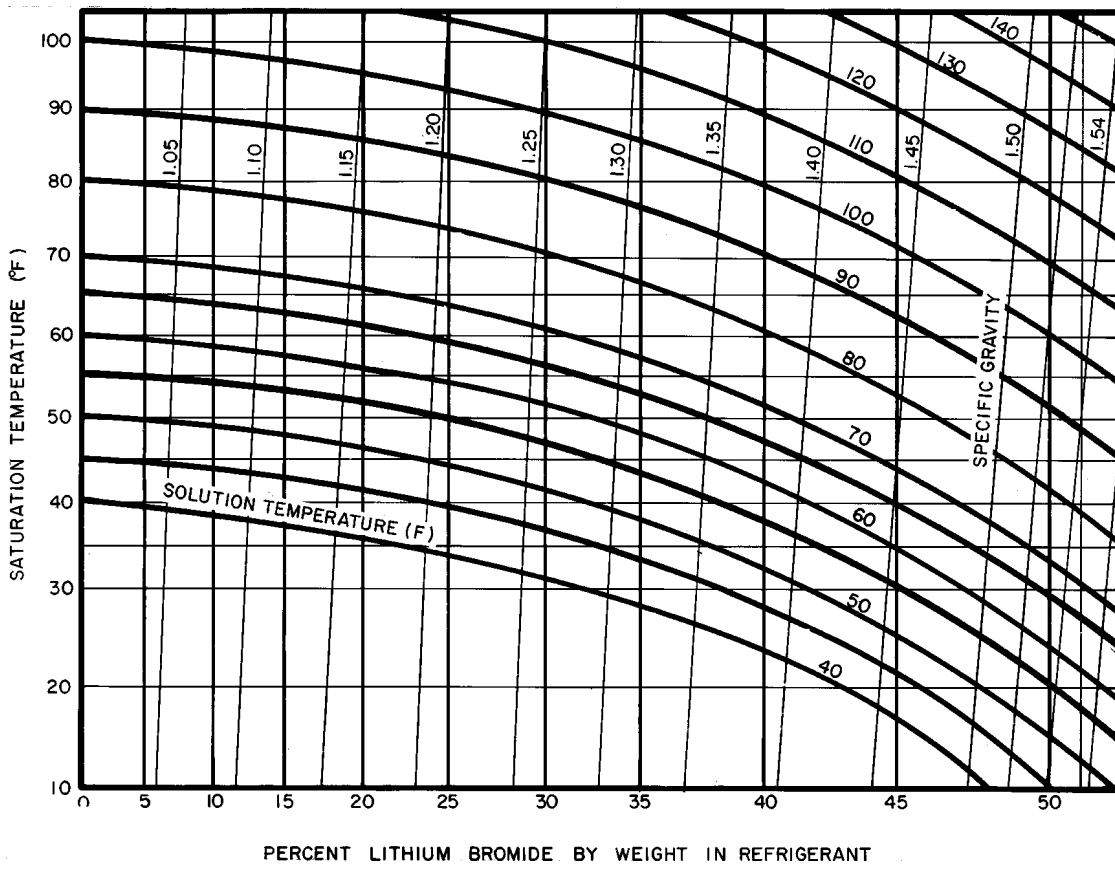

Fig. 26A — Equilibrium Diagram for Lithium Bromide in Refrigerant (F)
- horizontally to the right and read the saturation temperature. Repeat with refrigerant sample, using Fig. 26A or 26B and reading to the left for saturation temperature.